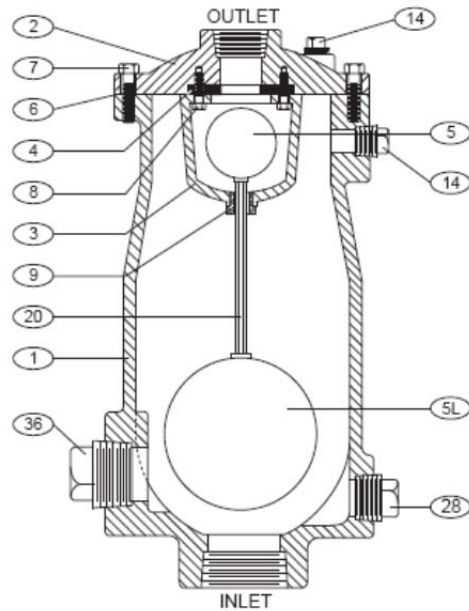
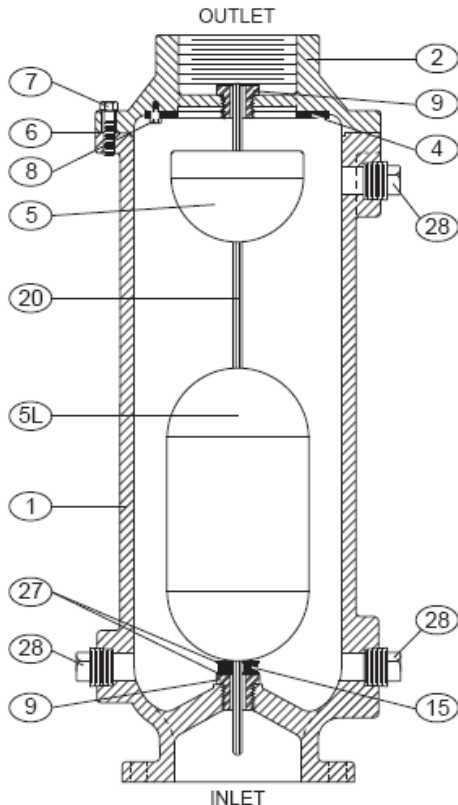

Figure 2. 1"-3" Wastewater Air/Vacuum Valve
Figure 3. 4"-8" Wastewater Air/Vacuum Valve
The standard Wastewater Air/Vacuum Valve body and cover are cast iron. See specific Materials List submitted for the order if other than standard cast iron construction. All internal metal components are stainless steel with the exception of the seat, which is resilient. The general details of construction for 1" through 3" valves are illustrated in Figure 2. The general details of construction for 4" through 8" are illustrated in figure 3. The body (1) is threaded or flanged for connection to the pipeline.